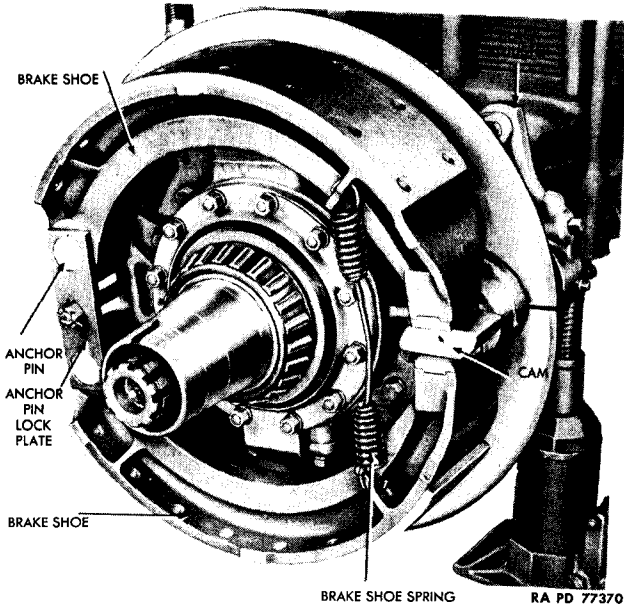

Figure 76 — Front Brake Shoes Installed
(1) **DESCRIPTION** (figs. 76 and 77). Two brake shoes are attached to a backing plate inside each of the four brake drums. Two anchor pins hold adjacent ends of shoes in place. The opposite ends of shoes are pulled together by a brake shoe spring. A cam, located between these ends, pivots when brakes are applied, and pushes ends of shoes apart. This presses lining riveted to shoes against brake drum, creating a braking action. When the brakes are released, the cam pivots back to its original position, and the brake shoe spring draws the shoes toward each other.
- (3) REMOVE BRAKE SHOE SPRING (figs. 76 and 77). Use slack adjuster to turn camshaft until shoes are at lowest point on cam. Slide brake shoe spring from holes in shoes. *NOTE: Rear wheel brakes have two springs.*
- (4) REMOVE ANCHOR PIN LOCK PLATE (figs. 76 and 77). Remove cotter pin and stud nut which hold lock plate on pins, and lift plate from pins.
- (5) REMOVE SHOES (figs. 76 and 77). Pull both shoes from anchor pins.
- (1) ATTACH SHOES TO ANCHOR PINS (figs. 76 and 77). Position shoes on anchor pins. Position lock plate on pins and shoes, and install stud nut and cotter pin which secures lock plate to pins.
- (2) INSTALL BRAKE SHOE SPRING (figs. 76 and 77). Pull free ends of shoes together, and insert spring and clips through holes in brake shoes. Install two springs on rear wheel brake.
- (3) INSTALL HUB AND WHEEL (pars. 133 and 134).
- (4) ADJUST BRAKES (par. 126).